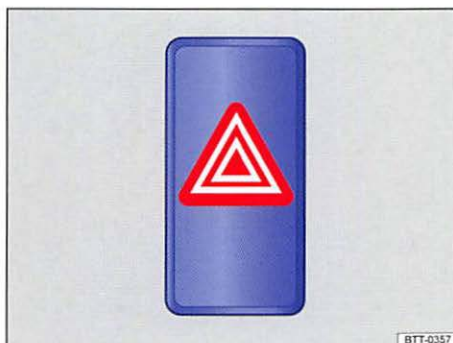

Fig. 145 In the center of the instrument panel:
2. Switch on emergency flashers by pressing the  switch ⇒ fig. 145.
4. Shift the transmission into Park (P) (automatic) or Neutral (manual only) ⇒ page 171.